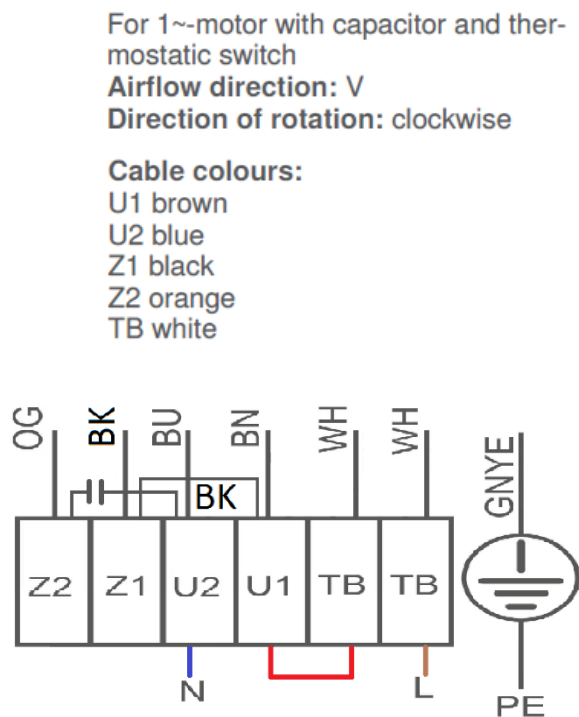

Figure 13 Wiring diagram ZN045
Connecting the fan in this way increases its life span. Connect the fan as shown in Figure 13 and 14. The thermostatic switch is connected in series with the phase. The red line in Figure 13-14 is the connection between TB and U1.
**Note: In this scheme, the thermostatic switch is not connected yet (see Figure 13 and 14) !**